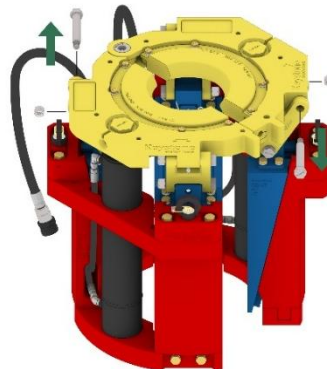

Fig. 24
**Step 2:** Remove the top link pins from the link and leveling plate. Fig. 24